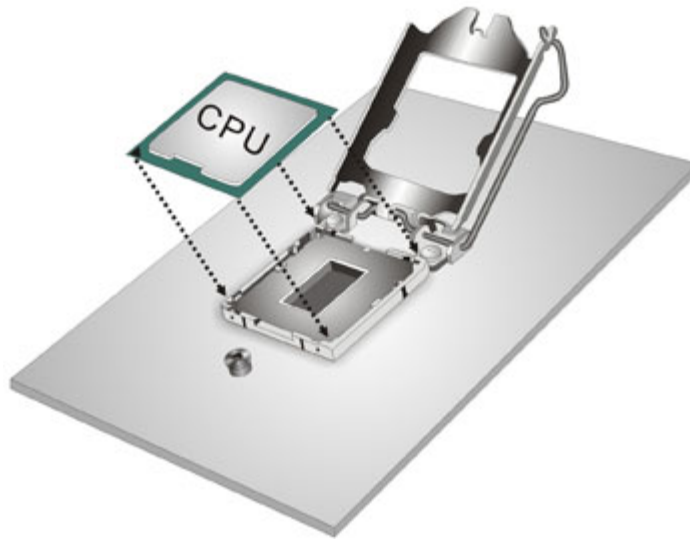

Figure 4-3: Insert the Socket LGA1155 CPU
- Step 7: Insert the CPU.** Gently insert the CPU into the socket. If the CPU pins are properly aligned, the CPU should slide into the CPU socket smoothly. See Figure 4-3.